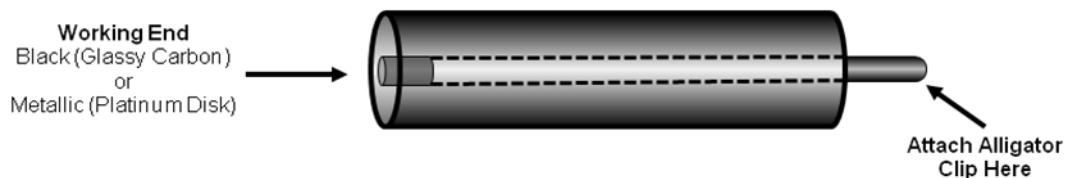

Figure 3: General Diagram of a Working Electrode
4. Identify the two electrodes from your kit (platinum disk and glassy carbon). *The platinum disk and glassy carbon working electrodes both look like black rods. To tell the difference between the two, remove the cap and examine the working end of the electrodes. The platinum disk electrode looks metallic, while the glassy carbon electrode looks like a shiny black surface. (A general diagram of a working electrode is shown below in Figure 3). If you are unable to tell the electrodes apart, ask a TA for help.*